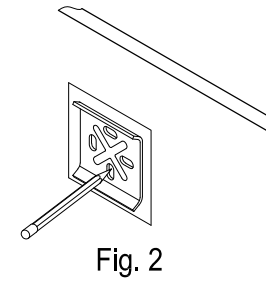

Fig. 2
- Step 3. Place the mounting bracket (with the holes on a level) in the center of the pencil outline you just made and mark the location of the mounting screws (fig 2).